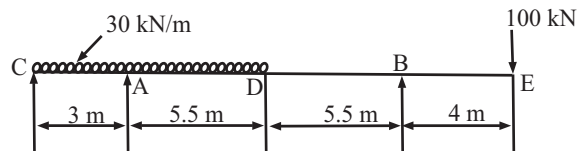

Fig 1
- Q.1.** Draw the SF and BM diagram for the simply supported beam loaded as shown in fig 1.